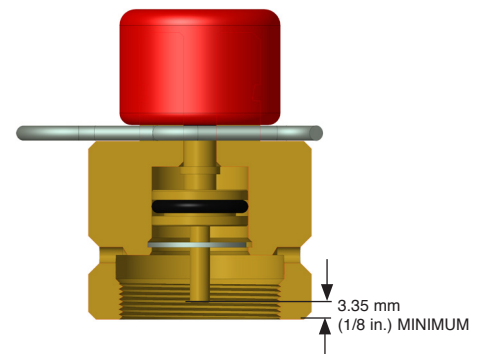

FIGURE 6-33
1. Check that the actuation pin is in the non-fired position. See Figure 6-33.